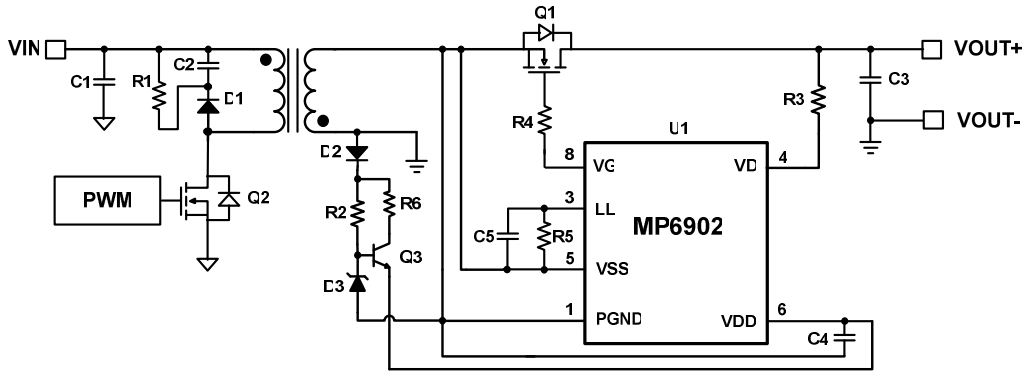

Figure 5 — Non-auxiliary Winding Power Solution for MP6902
Figure 5 shows another non-auxiliary winding power solution for MP6902, R2, R6, D3, Q3 forms an external LDO circuit, in which D3 provides the output clamp of the LDO, R6 (typical <1kΩ) limits the LDO current, while R2 provides the turn on signal for Q3, which can be selected as several tens kΩ. The D2 can also be connect to system output voltage (VOUT+) instead of transformer winding, when the LDO output is not high enough to power the VDD.
- Design the V_{DD} power supply derived from secondary transformer winding as figure 5 shows. This will make the V_{DD} power supply capacitor charged as soon as the system is switching, which means the V_{DD} power supply voltage level rises much faster.